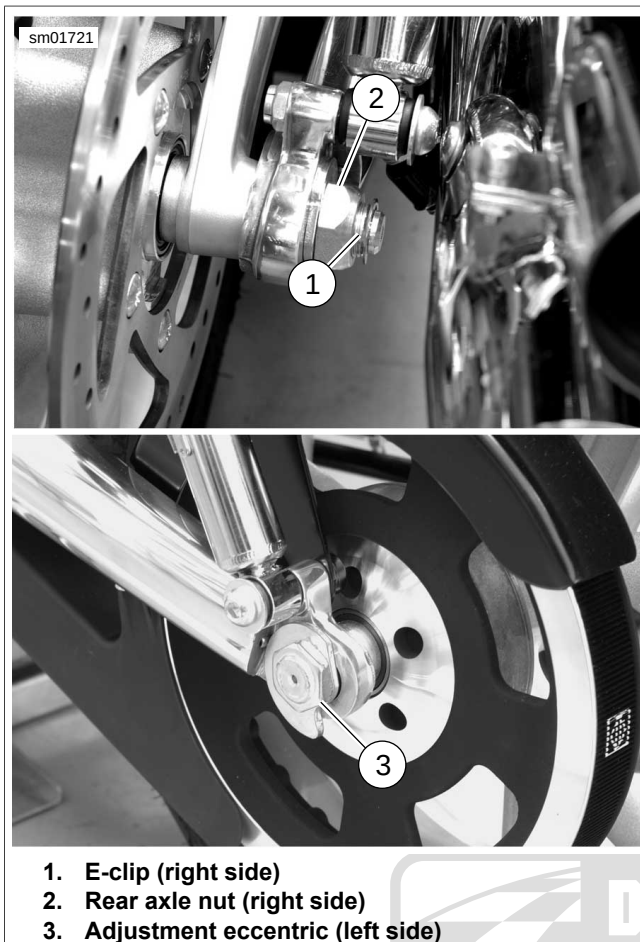

Figure 1-22. Axle Adjusters (typical)
- See Figure 1-22. If belt adjustment is necessary, remove e-clip (1) and loosen axle nut (2) on right side of motorcycle.